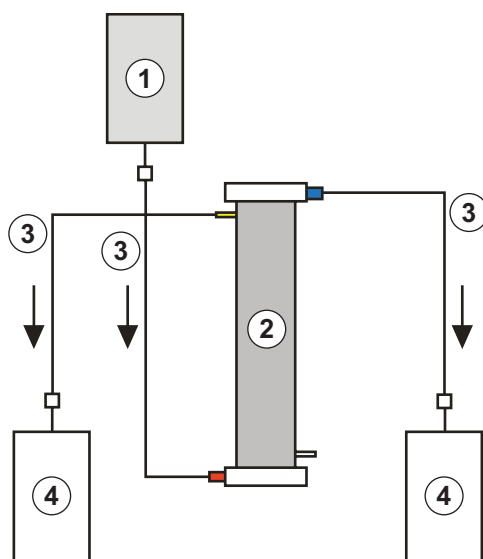

Fig. 6-1 Set-up for plasma filter rinsing
Materials: See legend to Fig. 6-1, 1.5 ml heparin solution (5000 IU/ml)
3. Attach the remaining connection lines and the collection bags as shown in Fig. 6-1 with the plasma and blood side of the filter and clamp the line on the plasma side.